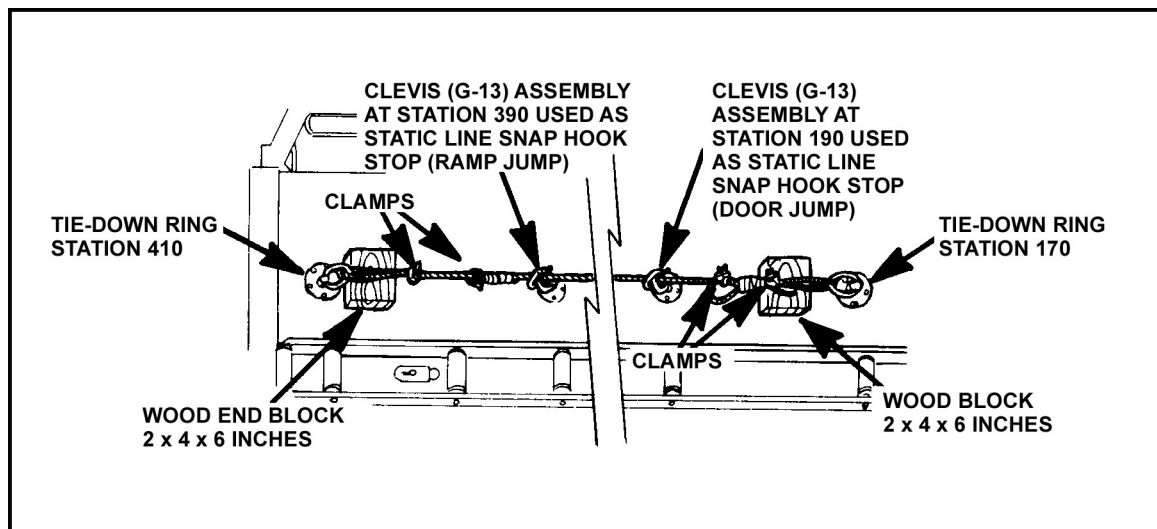
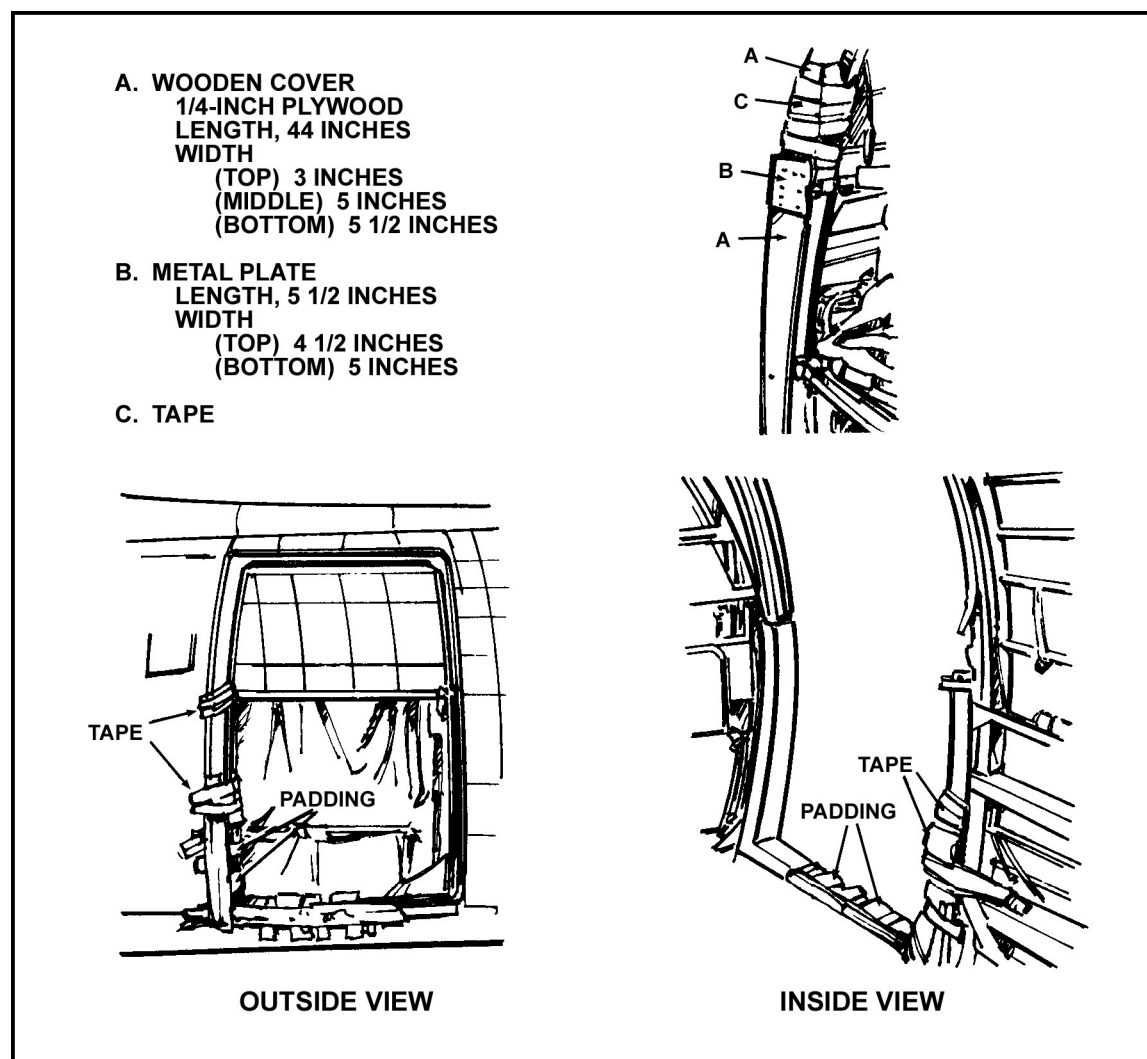

Figure 18-6. CH-46 anchor line cable installation.
Figure 18-7. CH-46 door frame preparation.
(1) The anchor line cable is installed on the floor of the aircraft on the starboard side (Figure 18-6) using the tie-down fittings at station number 170 (forward attachment point) and station number 410 (rear attachment point).
(2) One 1/4-inch or 3/8-inch steel cable, of an acceptable length, is installed with four clamps, lock washers, and bolts.
(3) Two 2- by 4- by 6-inch wooden blocks are placed between the anchor line cable and floor, and a clevis assembly (G-13, for use as a static line snap hook stop) is attached to the tie-down ring at station number 190 (door jump).
(4) Excess slack is removed from the anchor line cable.
(5) The personnel door is removed, and a plywood cover is installed over the aft side of the door frame and secured with a metal plate. The bottom and aft edges of the door frame are padded and taped (Figure 18-7).